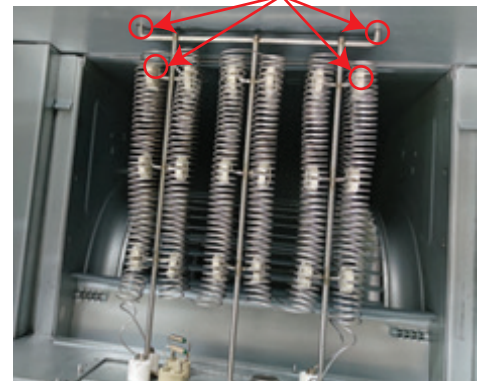

Fig. 9
- 6.) Install the heating bracket by sliding it into the air duct hole that you removed the plate from in the previous steps. Align the 4 prongs at the end of the heat kit with the 4 corresponding holes on the opposite side of the air duct hole. Install screws to secure the heat kit to the air handler (See Fig. 9).